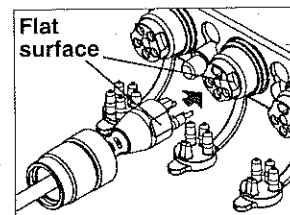

Figure 8
3. Align the markings or flat surfaces of the cable and socket and insert the plug into the socket. (Figure 8)